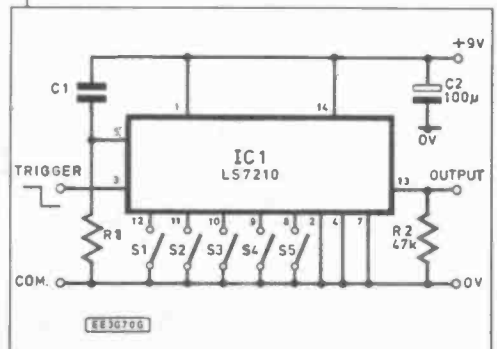

Fig. 6.24 Basic LS7210 timer circuit
**Question 5:** An LS7210 programmable timer is to be used to generate an accurate time delay of 410ms from a 50kHz clock. What weighting factor should be applied and what should be the logical state of each of the weighting factor inputs? Fig. 6.24 shows a typical timer arrangement based on an LS7210.